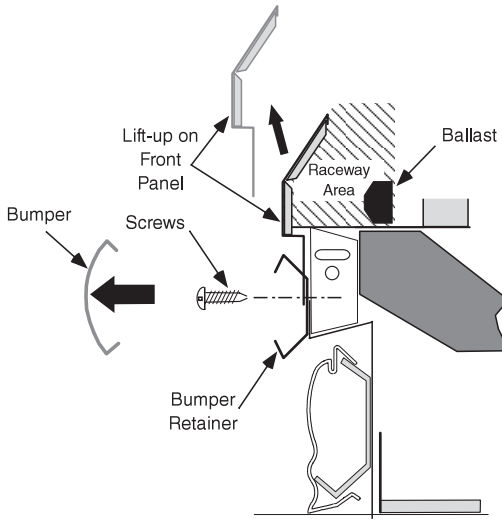

Figure 5. Exposing the Raceway
- B. Remove screws from the center of each bumper retainer and set aside: 2-door, two screws, 3-door, three screws, 4-door, four screws, or 5-door, five screws. The retainers stay on the merchandiser. Refer to detail in Figure 5.
- C. Lift the front panel up and out. Tabs on the front panel must clear slots in bumper retainers. See Figure 5. Terminal block is now visible in the wireway.